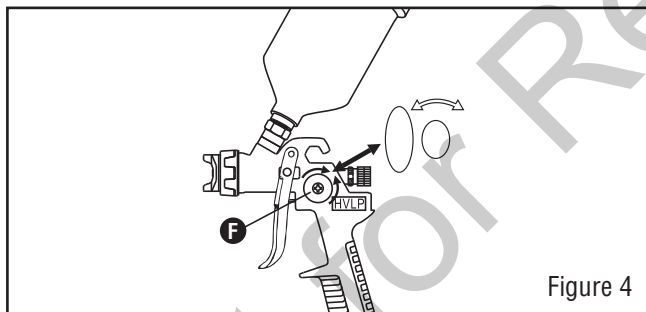

Figure 4
2. Set pattern size for desired shape. For full pattern, open spray pattern adjustment knob (F) counterclockwise. For a round pattern, turn spray pattern adjustment knob (F) clockwise. (See Figure 4)